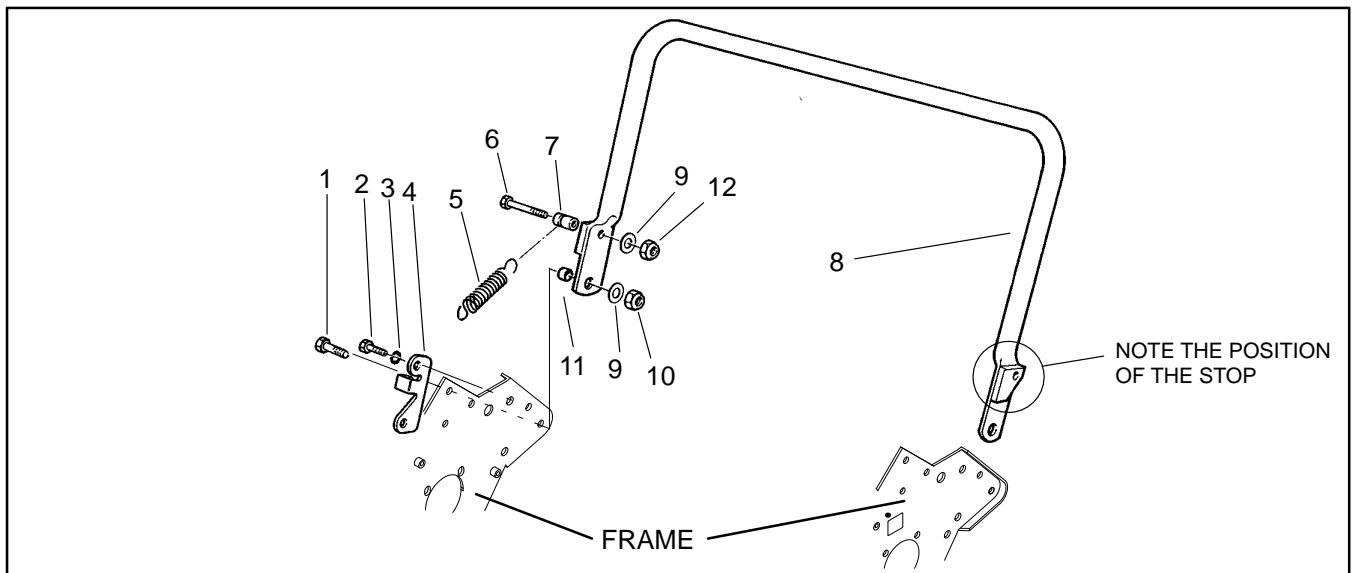

Figure 14
4. Remove both lock nuts (10), flat washers (9), cap screws (1), and spacers (11) from the kickstand (8) and frame. Remove kickstand from the frame (Fig. 14).
2. Position kickstand (8) inside the mower frame. Insert capscrews (1) through the frame, spacers (11), and kickstand (Fig. 14).
3. Secure cap screws (1) with flat washers (9) and lock nuts (10). Tighten fasteners (Fig. 14).